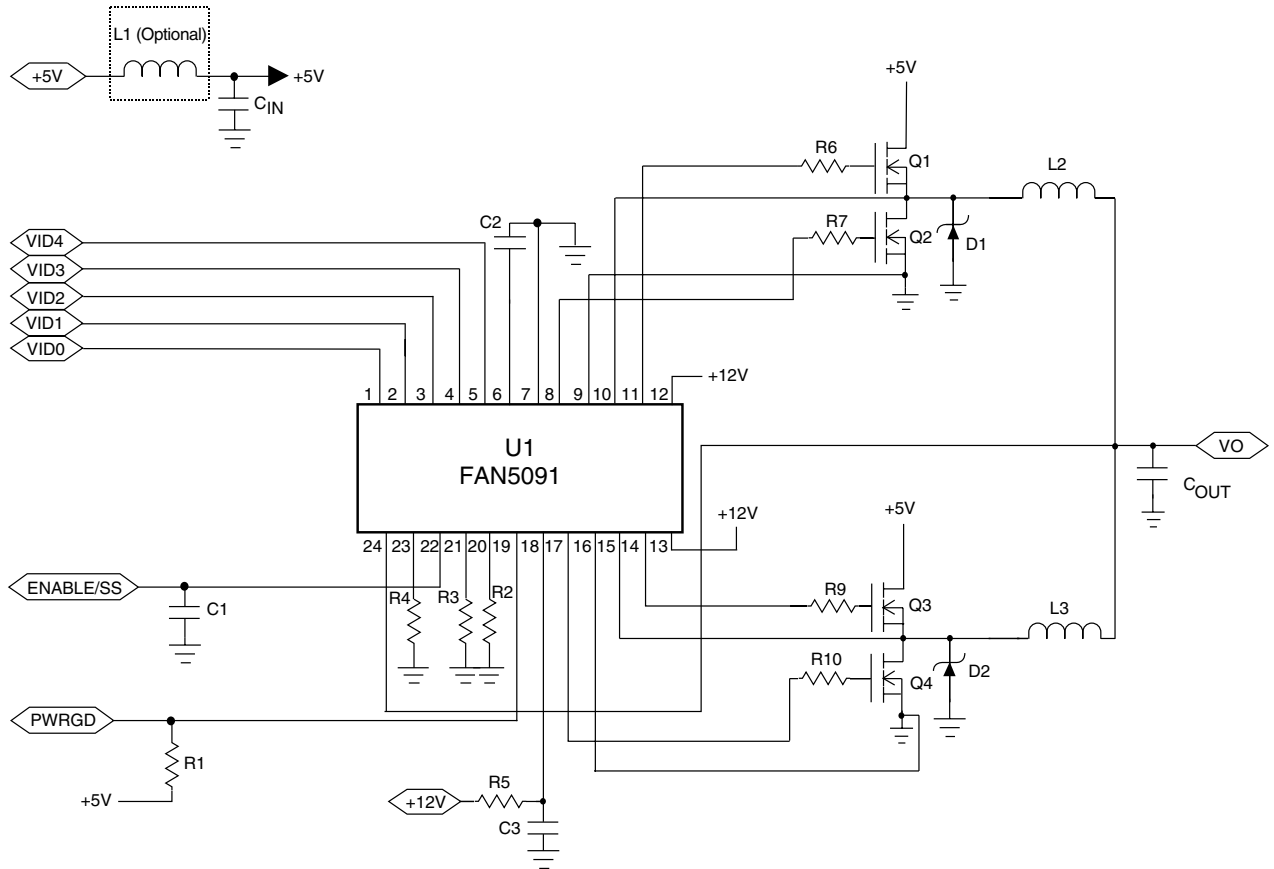

Figure 1. Application Circuit for 1.6V, 35A Athlon Medium-Frequency Application (500 KHz each slice)
**Table 2. FAN5091 Application Bill of Materials for Figure 1**